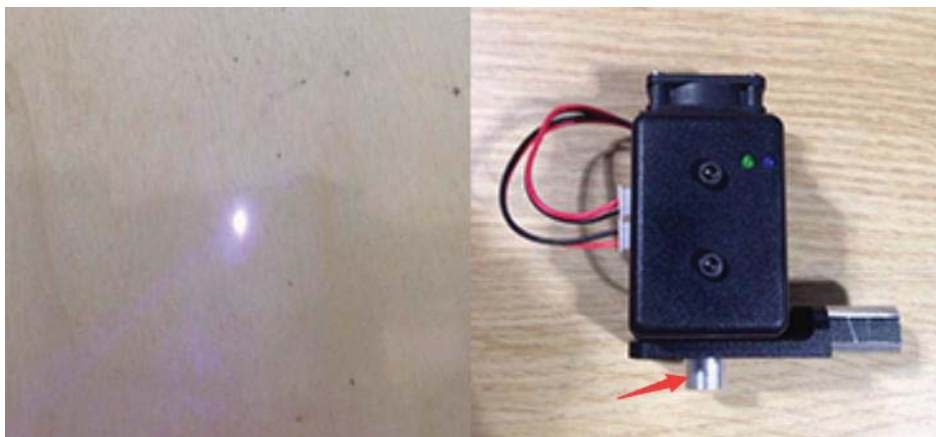

Figure 5.99 Adjust the focus
- If you cannot set the laser to be at its minimum focus, it's probably because the focal length is long. To shorten the focal length, slightly turn the sliver lens screw (as shown in Figure 5.99) on the bottom of the laser kit.